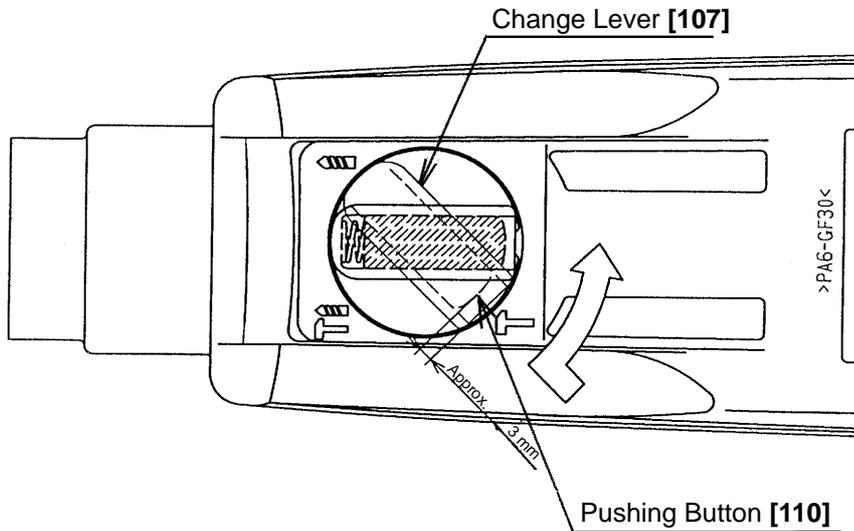

Fig. 15
(2) Disassembly of the change lever
- As shown in Fig. 15, pressing the Pushing Button [110] hard, turn the Change Lever [107] 45° counterclockwise from the "striking only" position (T mark). Pry out the Change Lever [107] at this position.